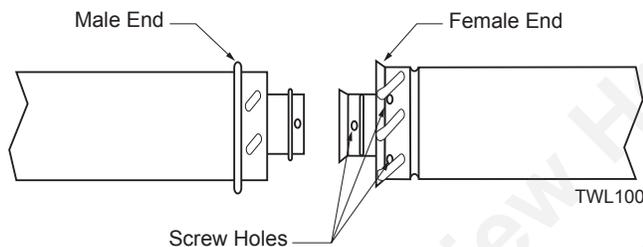

Figure 11 - Twist-lock Pipe Joints
To join twist lock pipes together, simply align the beads of the male end with the grooves of the female end, twisting the pipe until the flange on the female end contacts external flange on the male end. It is recommended that you secure the joints with three (3) sheet metal screws, however, this is not mandatory with twist lock pipe. *Figure 11*